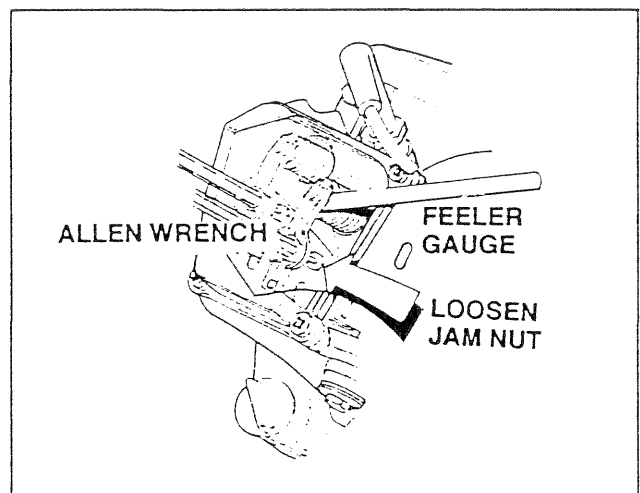

Figure 12 — Adjusting Valve Clearance
1. Loosen the rocker arm jam nut. Use an allen wrench to turn the pivot ball stud while checking clearance between the rocker arm and the valve stem with a feeler gauge (Figure 12).